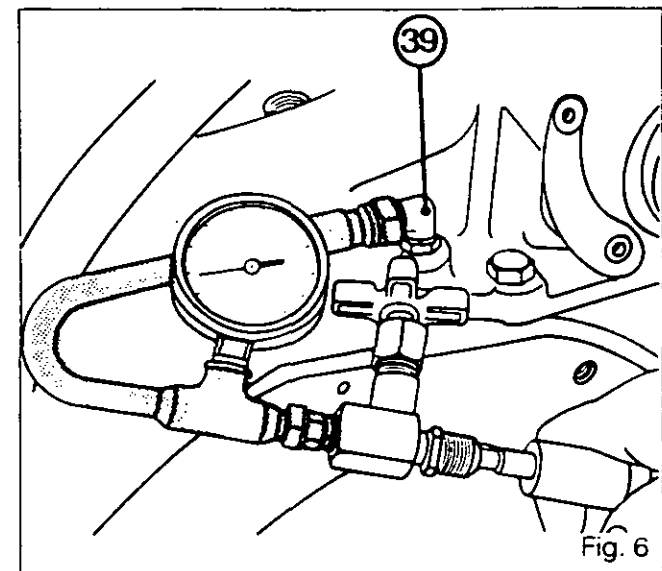

Fig. 6
- 20. Fit a pressure gauge and valve on the supply connector (39)(Fig. 6).